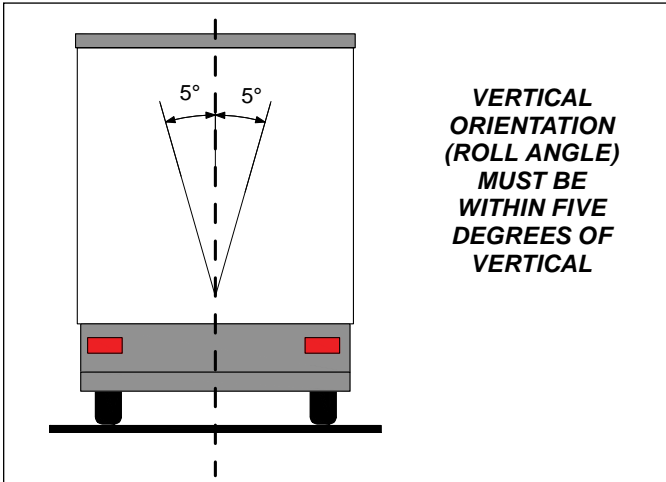

FIGURE 16 - INSTALLATION ON TRAILER (VERTICAL)
1. The TABS-6 Advanced MC module shall be installed with the following considerations (see Figures 16 through 18):